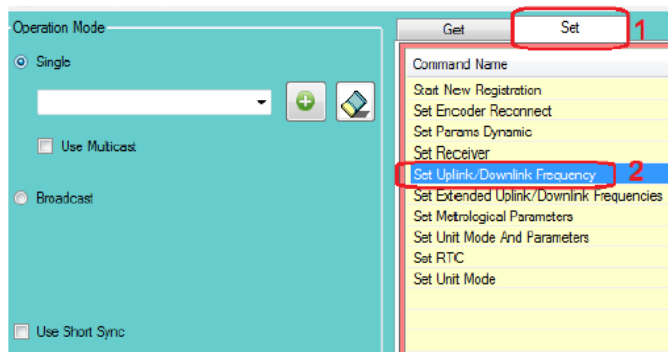

Figure 14
5. In the “Operation Mode” window ensure the following (see figure 14).